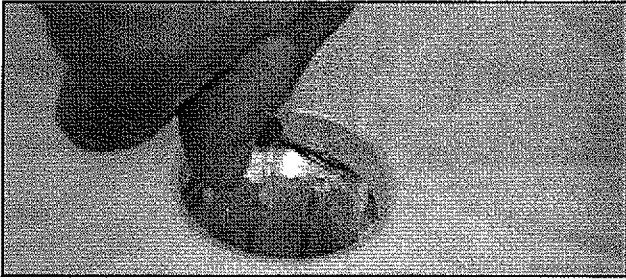

FIGURE 11
16. Clean bearing and seal areas with a rag. Check the weep hole (make sure it is not plugged). See *Figure 11*.